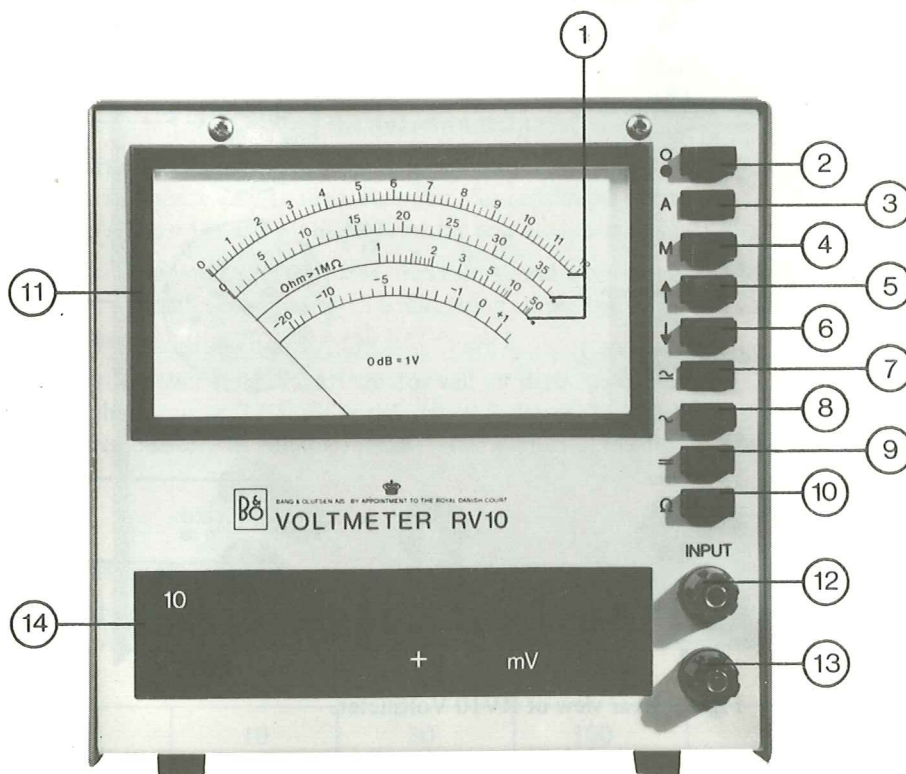
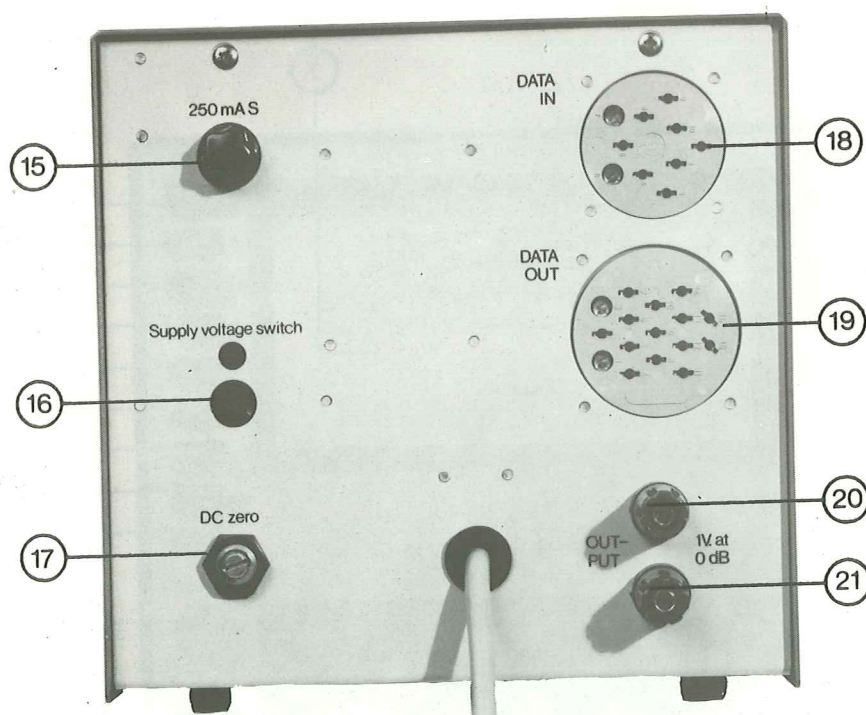

Fig. 1. Front view of the RV10 Voltmeter.
Fig. 2. Rear view of RV10 Voltmeter.
The operation of the instrument appears from Fig. 1 and Fig. 2.
Output voltage at the monitor output (20/21), Fig. 2, is analogous with the input voltage and proportional to the meter reading. At full scale (0 dB), the output voltage is 1 V, and maximum gain is therefore 40 dB (100).
All functions corresponding with the push-buttons on the front panel of the multimeter may be remotely controlled through the "DATA IN" multisocket (18), Fig. 2.